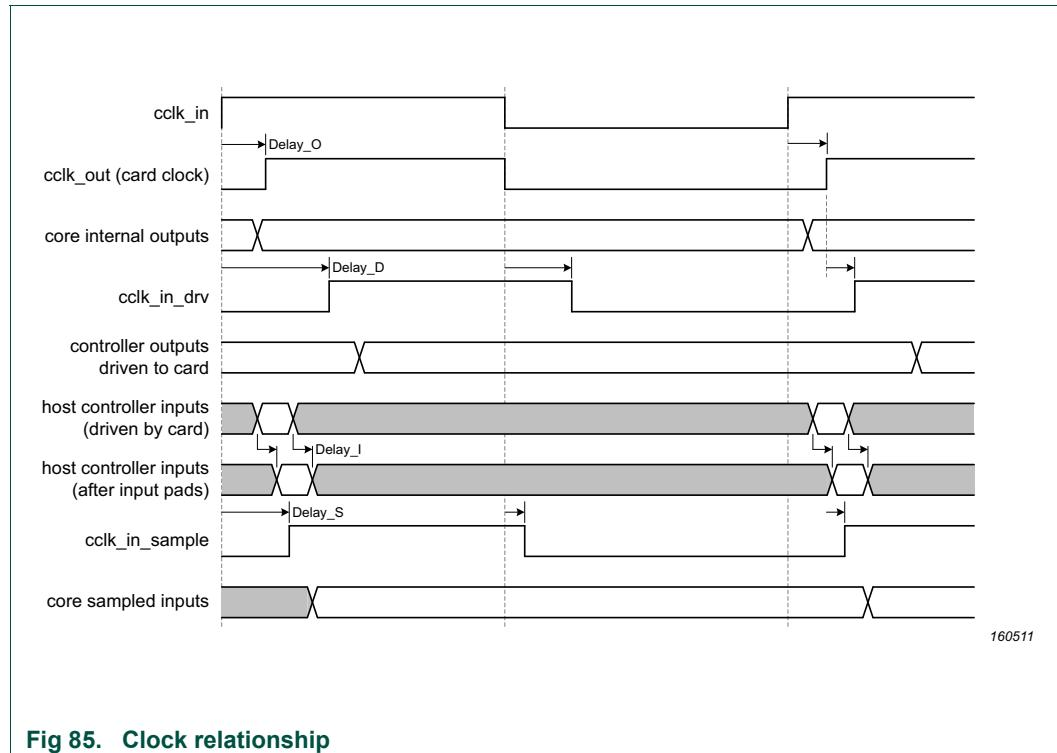
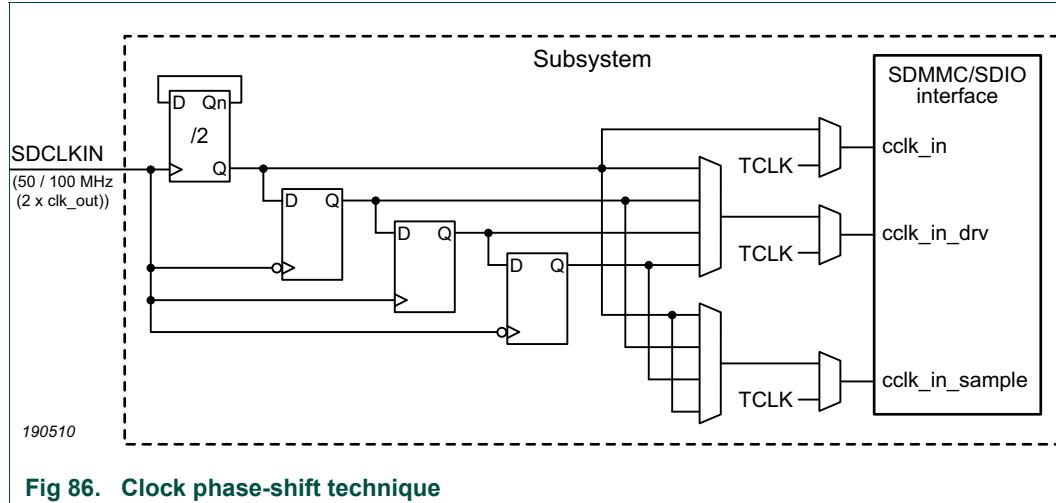

Fig 85. Clock relationship
Fig 86. Clock phase-shift technique
Figure 85 illustrates relationships for these delays. Figure 86 shows the relationships between **cclk_in**, **cclk_out**, **cclk_in_sample**, and **cclk_in_drv**.
- Figure 86 The **cclk_in_drv** and **cclk_in_sample** clocks are phase-shifted versions of **cclk_in**. The value of the phase shift should be selectable, based on the speed modes. The phase shift can have a resolution of 90° or 45° with respect to the **cclk_in** clock period—the higher the resolution, the better it is. All clocks have a 50% duty cycle.